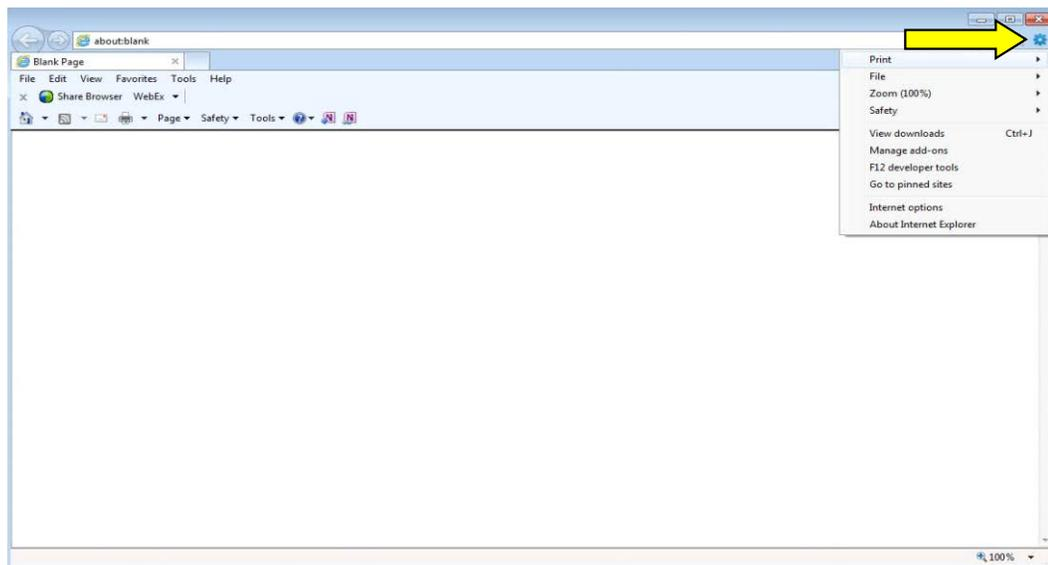

Figure 5-7: Gear menu in Internet Explorer 9
- a. In Internet Explorer, click the **Gear** icon to expand the menu, as shown in Figure 5-7.